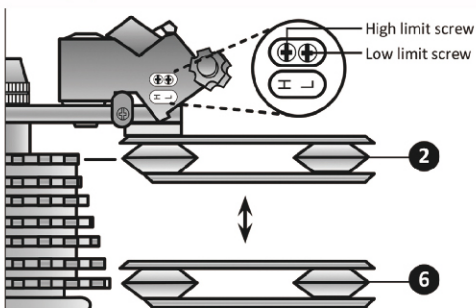

Figure 14.2
- ② Adjust the high limit screw (H) so the guide pulley and the smallest sprocket are lined up. Figure 14.2
- ③ Reconnect the cable, pull out any slack, and retighten the anchor bolt securely.
- ④ Shift through the gears, making sure each gear achieved is done quietly and without hesitation. If necessary, use the barrel adjuster to fine tune each gear by turning it in the direction you want the chain to go. For example, turning clockwise will loosen the cable tension and move the chain away from the wheel, while turning counter-clockwise will tighten cable tension and direct the chain towards the wheel.
- ⑤ Shift the rear shifter to the gear one and place the chain on the largest cog.
- ⑥ Adjust the low limit screw (L) in quarter turn increments until the guide pulley and the largest cog are aligned vertically.
- ⑦ Again, shift through each gear several times, checking that each gear is achieved smoothly. It may take several attempts before the rear derailleur and cable is adjusted properly.